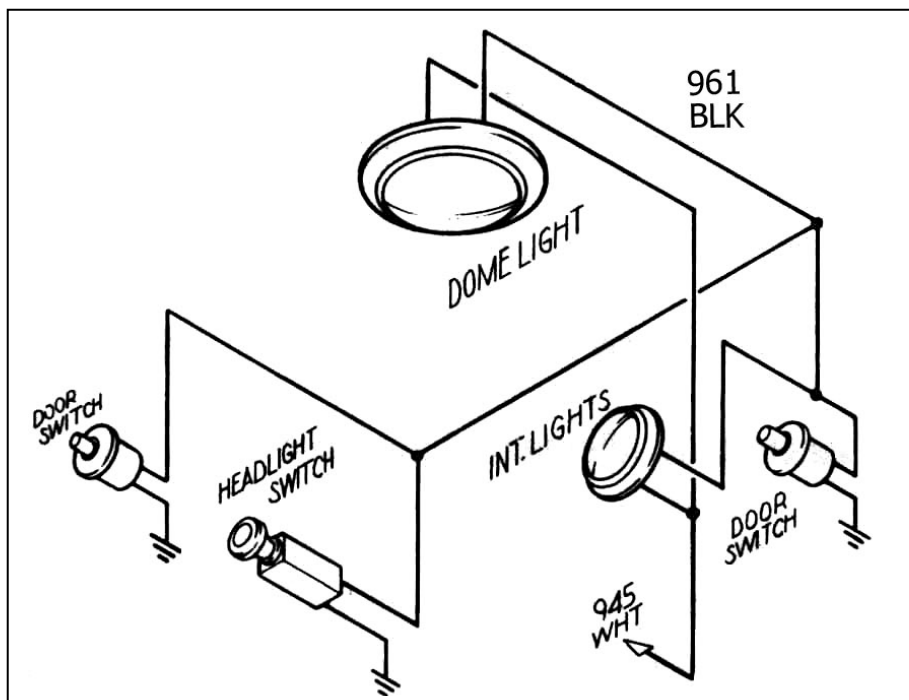

Figure 17-1 Interior Lighting (GM Style Jamb Switch – Painless Part #80170)
17.0 Interior Lighting. See Figure 17-1
- 17.0.1 Interior Lights are switched through the door switches and the dash-mounted headlight switch, which is usually rotated counter-clockwise to turn on. These switches apply ground to the circuit. YOU WILL NEED TO SUPPLY THESE GROUND WIRES. 12V is continually present at the light bulbs. See **Figure 17-1**.